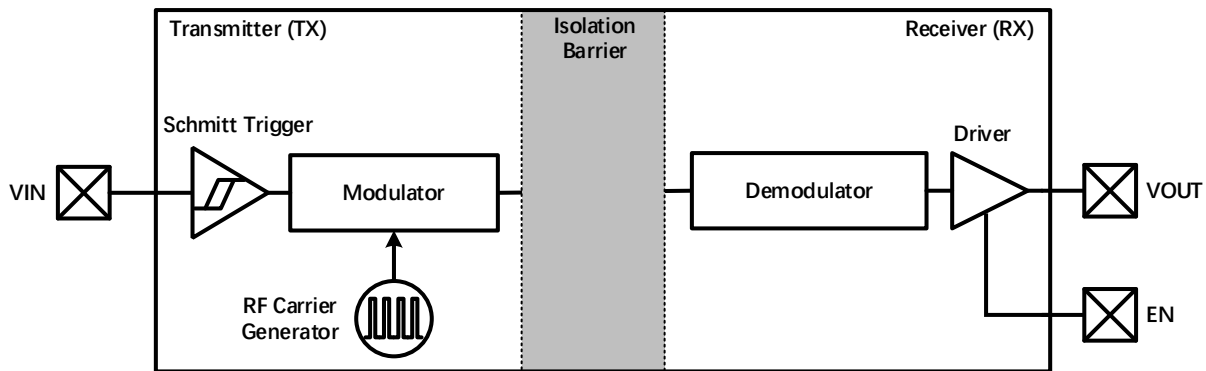
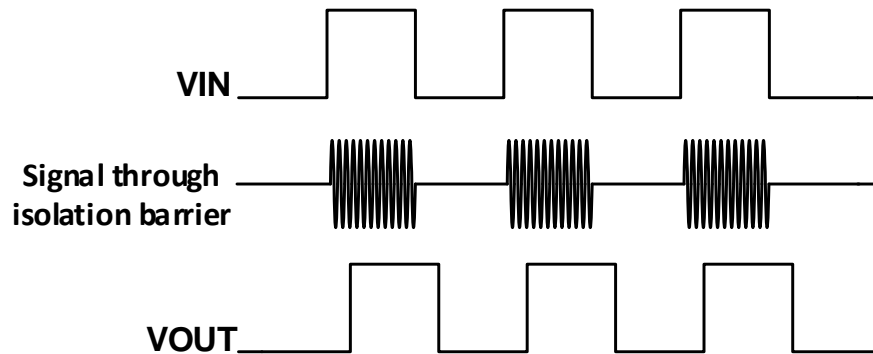

Figure 9-1 Functional Block Diagram of a Single Channel
Figure 9-2 Conceptual Operation Waveforms of a Single Channel
The CA-IS373x family of devices use a simple ON-OFF keying (OOK) modulation scheme to transmit signal across the SiO₂ isolation capacitors that provide a robust insulation between two different voltage domain and act as a high frequency signal path between the input and the output. The transmitter (TX) modulates the input signal onto the carrier frequency, that is, TX delivers high frequency signal across the isolation barrier in one input state and delivers no signal across the barrier in the other input state. Then the receiver rebuilds the input signal according to the detected in-band energy. If the ENx pin is low then the output goes to high impedance state and will be pulled up to V_{DDO} (CA-IS373xH) or pull down to the corresponding GND (CA-IS373xL). This simple architecture offers a robust isolated data path and requires no special considerations or initialization at start-up. The capacitor-based signal path is fully differential to maximize noise immunity, which is also known as common-mode transient immunity. Advanced circuitry techniques are applied for better EMI introduced by the carrier signal and IO switching. The capacitively-coupled architecture provides much higher electromagnetic immunity compared to the inductively-coupled one. And OOK modulation scheme eliminates the missing-pulse error that occurs in the pulse modulation method. A simplified functional block diagram and conceptual operation waveforms of a single channel is shown in Figure 9-1 and Figure 9-2.